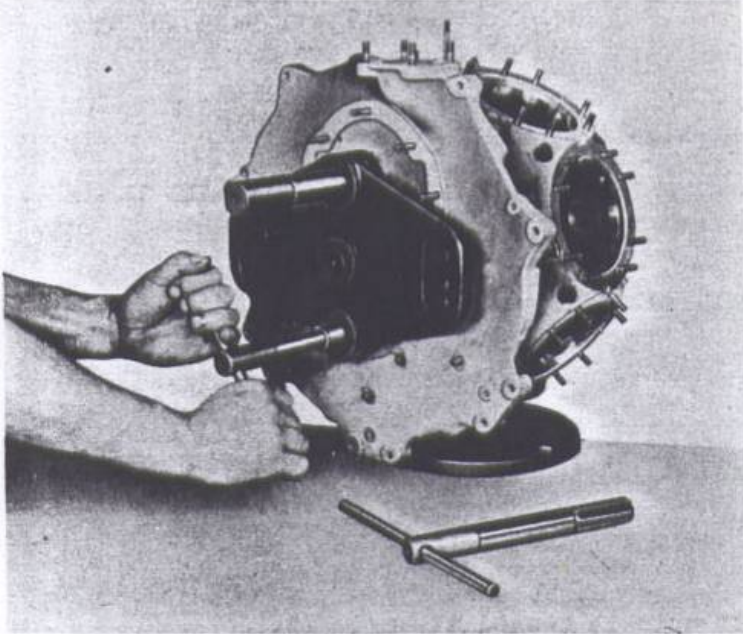

Fig. 20. Front and Rear Crankcase Sections Assembled for Reaming Operation
(1) Assemble gearcase, induction housing, crankcase rear section and crankcase front section together as shown in Figure 20.
(b) Reaming cam idler shaft bushing and tachometer drive shaft bushing (See Figure 20).